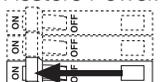

Figure 12
- a. **For flanged fixtures:** Pull on flange of trim until the trim is free (Figure 12).